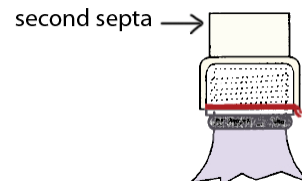

Fig. 4B For long-term storage, use a second septa
- For extra protection a second same-sized septa (sans holes) can be placed over the first (figure 4b).